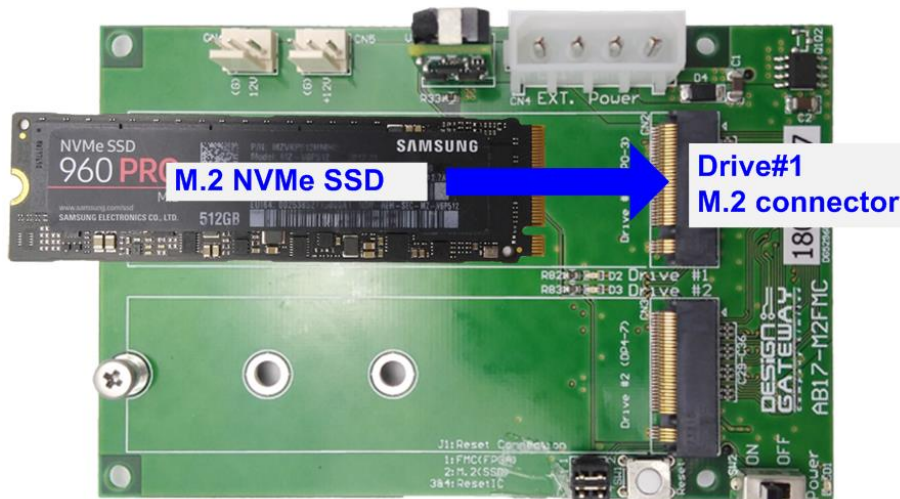

Figure 2-2 Connect M.2 NVMe to AB17
- 3) Connect M.2 NVMe SSD to Drive#1 M.2 connector on AB17-M2FMC, as shown in Figure 2-2.